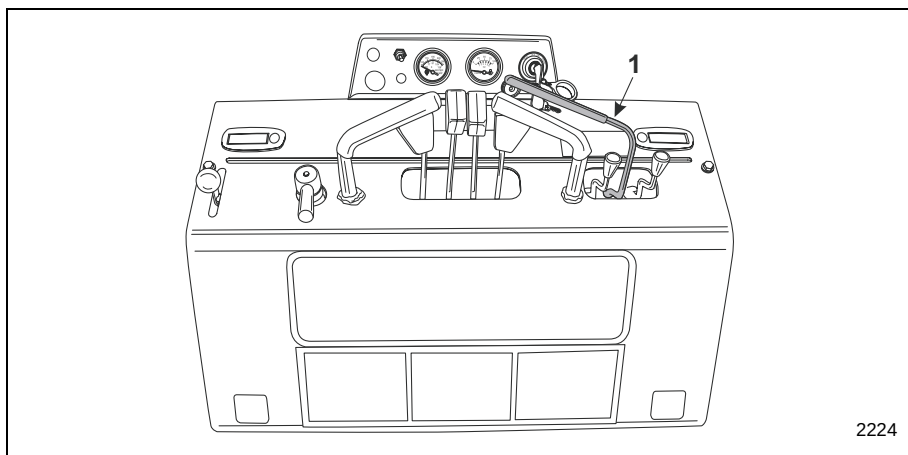

Figure 8 Auxiliary Attachment Controls
3. With your right hand, squeeze the AUXILIARY/OPERATOR PRESENCE control lever (Item 1, **Figure 8**) towards the hand hold to activate the attachment in the FORWARD motion.
7. If you want to reverse the operation of the attachment, move the auxiliary control lever (Item 1, **Figure 8**) to the REVERSE position. The control lever will remain in the REVERSE position detent until it is moved to the NEUTRAL position.